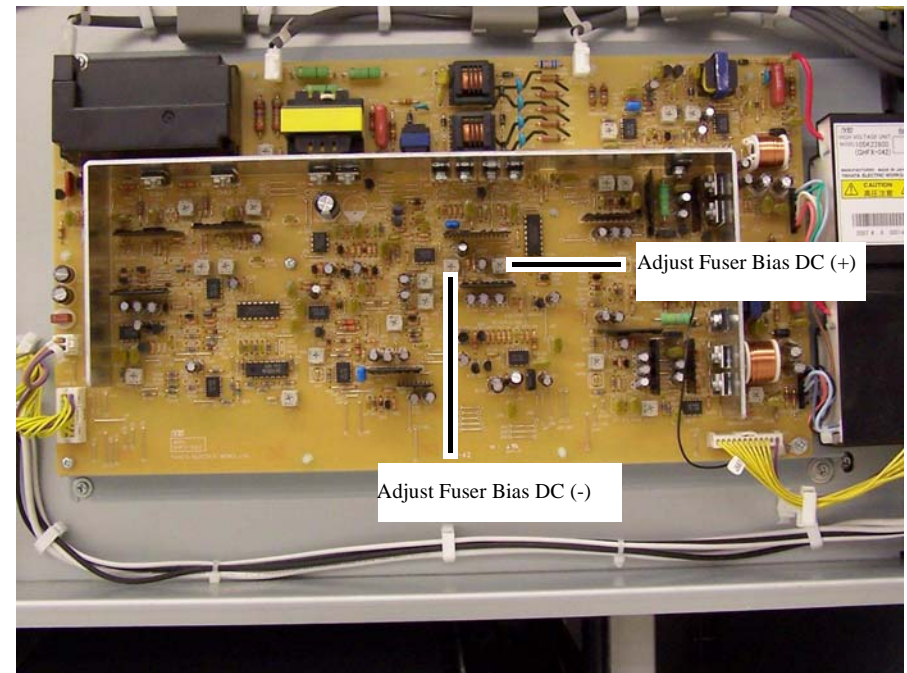

Figure 2 HVPS Fuser Bias Adjustment locations
NOTE: The Fuser Bias settings are changed by adjusting the potentiometers on the High Voltage Power Supply (see Figure 2).
- If the Fuser Bias DCV (+) value is incorrect, adjust the right hand potentiometer (Figure 2).
- If the Fuser Bias DCV (-) value is incorrect, adjust the left hand potentiometer (Figure 2).